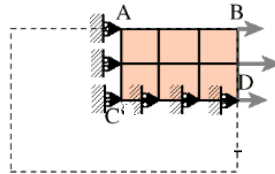

Figure 2
3. Yes. The problem could be reduced to the problem depicted in figure 2.